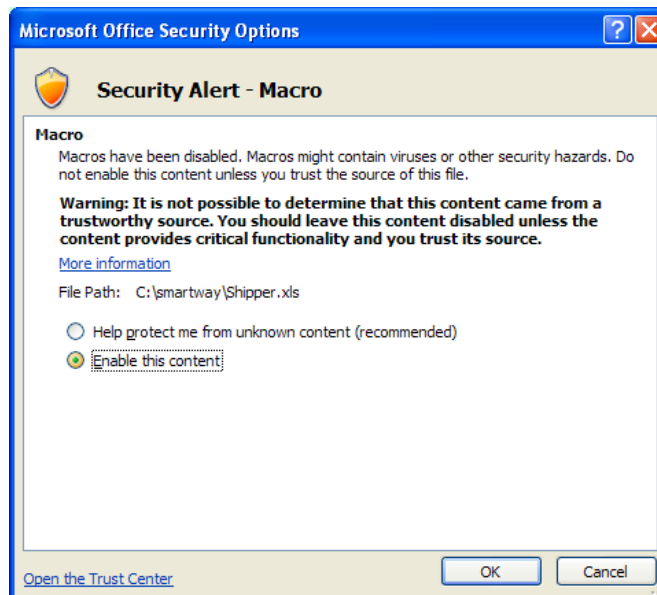

Figure 5: Security Options Dialogue Box
- 3) In the **Microsoft Office Security Options** dialog box (Figure 5), choose “Enable this content” and select **OK**.